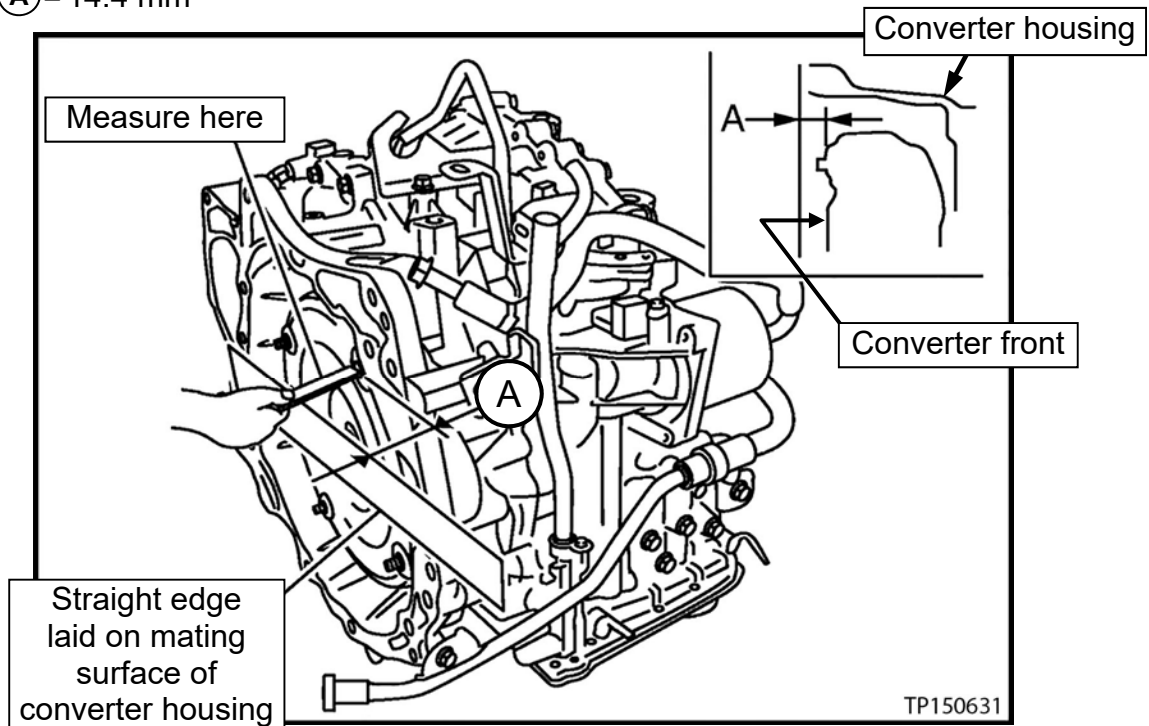

Figure 173
- Verify the torque converter is installed at the proper depth (see Figure 173).